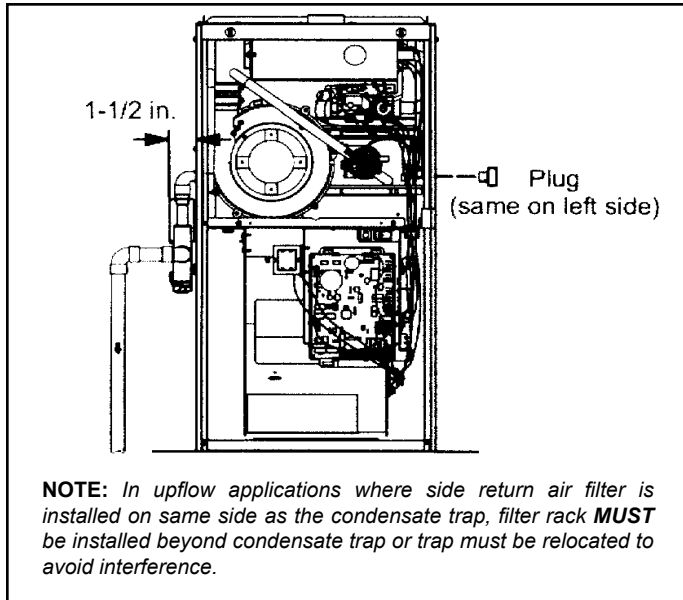

Figure 33. Condensate Trap and Plug Locations (Unit Shown in Upflow Position)
This unit is designed for either right or left side exit of condensate piping in upflow applications. In horizontal applications, the condensate trap must extend below the unit. An 8" service clearance is required for the condensate trap. Refer to Figure 33 for condensate trap locations.
2. Use a 1/2" ratchet drive or flat blade screw driver and remove plug (Figure 33) from the cold end header box at the appropriate location on the side of the unit. Install field-provided 3/4 NPT male fitting into cold end header box. Use Teflon tape or appropriate pipe dope.